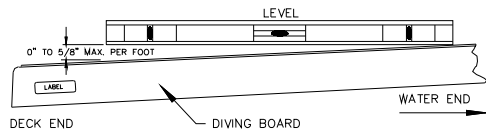

FIG.5
11. The top surface of the diving board from the deck end to the tip end shall be level or have an upward slope of 5/8" per foot (16 mm: 305mm) maximum. Elevation difference shall not exceed 6 inches (152mm) from the deck end to the tip of the board. There shall be no downward slope towards the water. The slope shall be measured using a level as shown in Fig. 5.